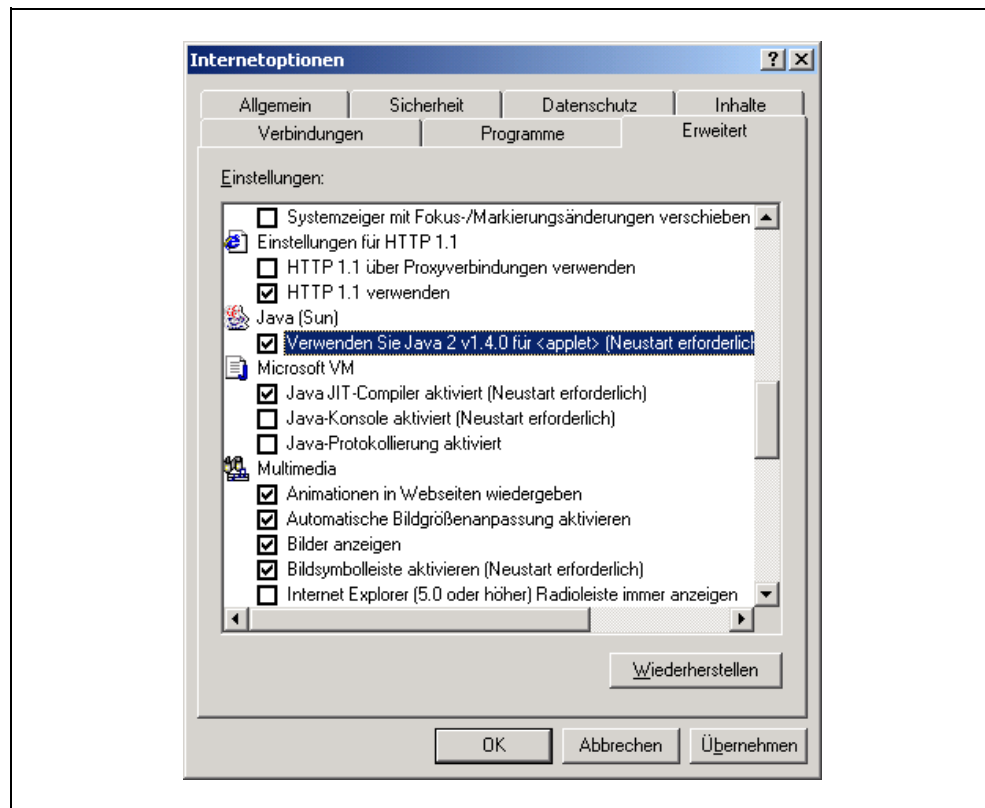

Figure 6-19 Microsoft Internet Explorer 6.0 – Advanced Internet Options
2. Select **Tools -> Internet Options -> Advanced**, to open the window shown in Figure 6-19.